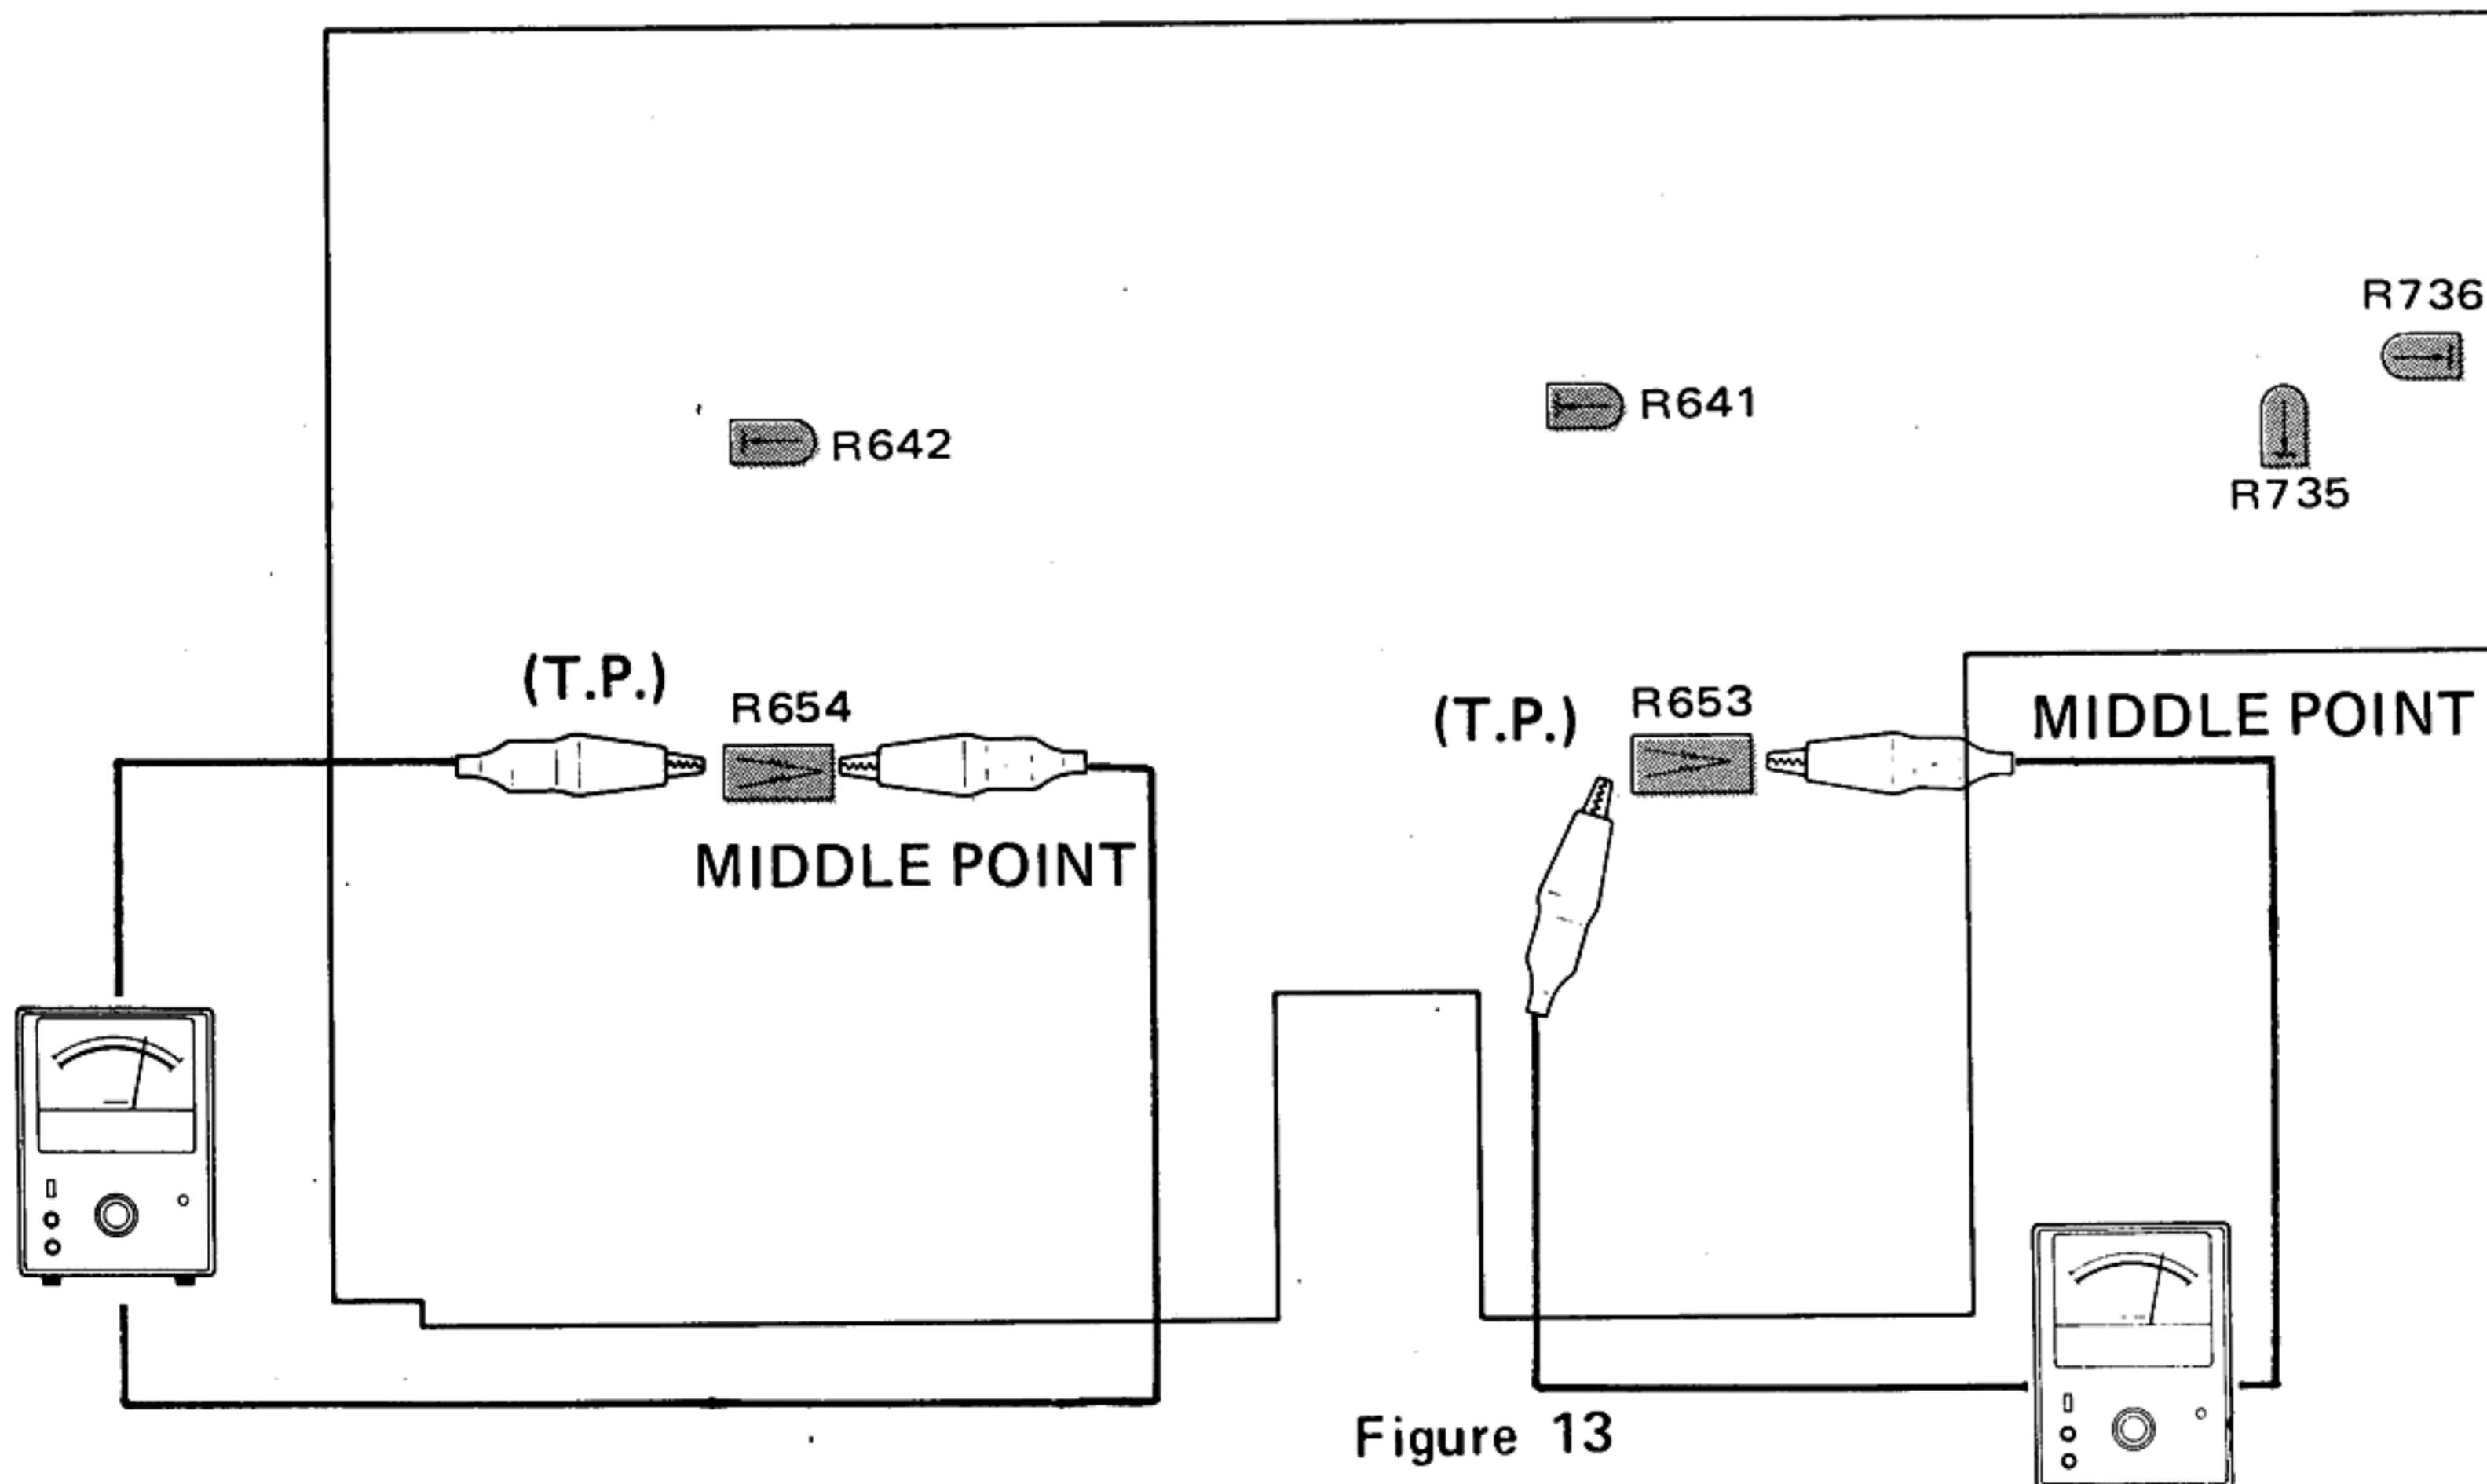

Figure 13
1. Idle current adjustment can easily be done by setting the semi-fixed VR R641, R642 (500 ohm) to mechanical mid point VR as shown in Figure 13.